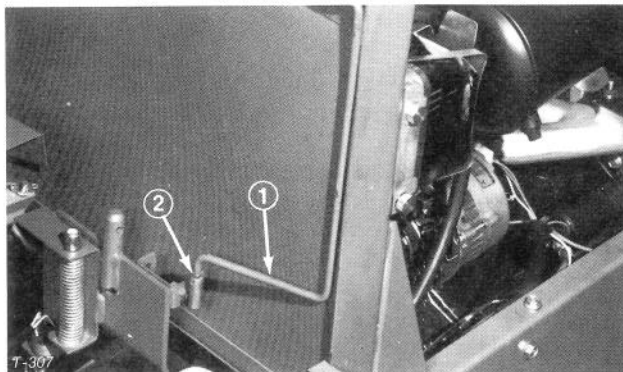

Figure 9
- Install seat support rod to seat support bracket with jam nut (Fig. 9).
5. Install seat support rod to seat support bracket with jam nut (Fig. 9).